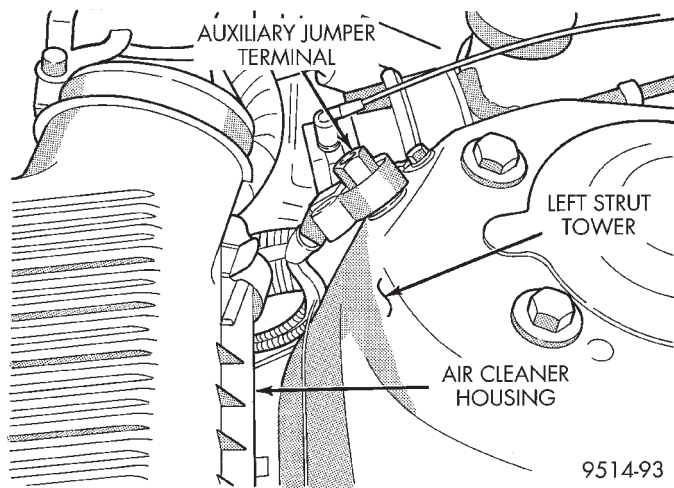

Fig. 22 Auxiliary Jumper Terminal
(1) Perform fuel system pressure release procedure **before attempting any repairs.**
(2) Disconnect negative cable from auxiliary jumper terminal (Fig. 22).
(3) Remove Air Inlet Resonator. Refer to Group 14, Fuel System for procedure.
(4) Disconnect the fuel supply line quick connect at the fuel rail assembly. Refer to Group 14, Fuel System for procedure.
(11) Connect negative cable to auxiliary jumper terminal (Fig. 22).
(12) With the DRB scan tool use ASD Fuel System Test to pressurize system to check for leaks.